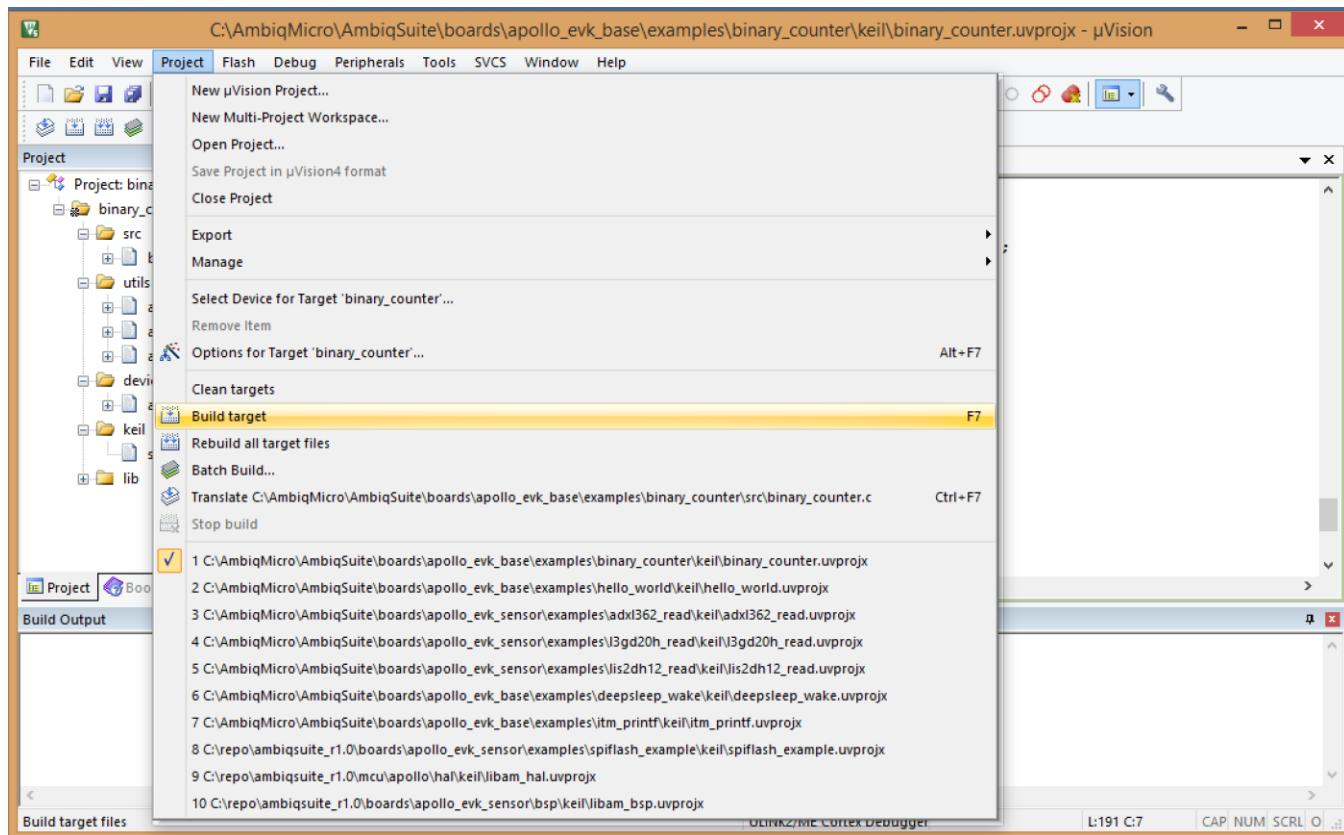

Figure 43 Build Keil Project for example “binary\_counter”
- Build the projects at Project→Build Target as shown in the Figure 43.